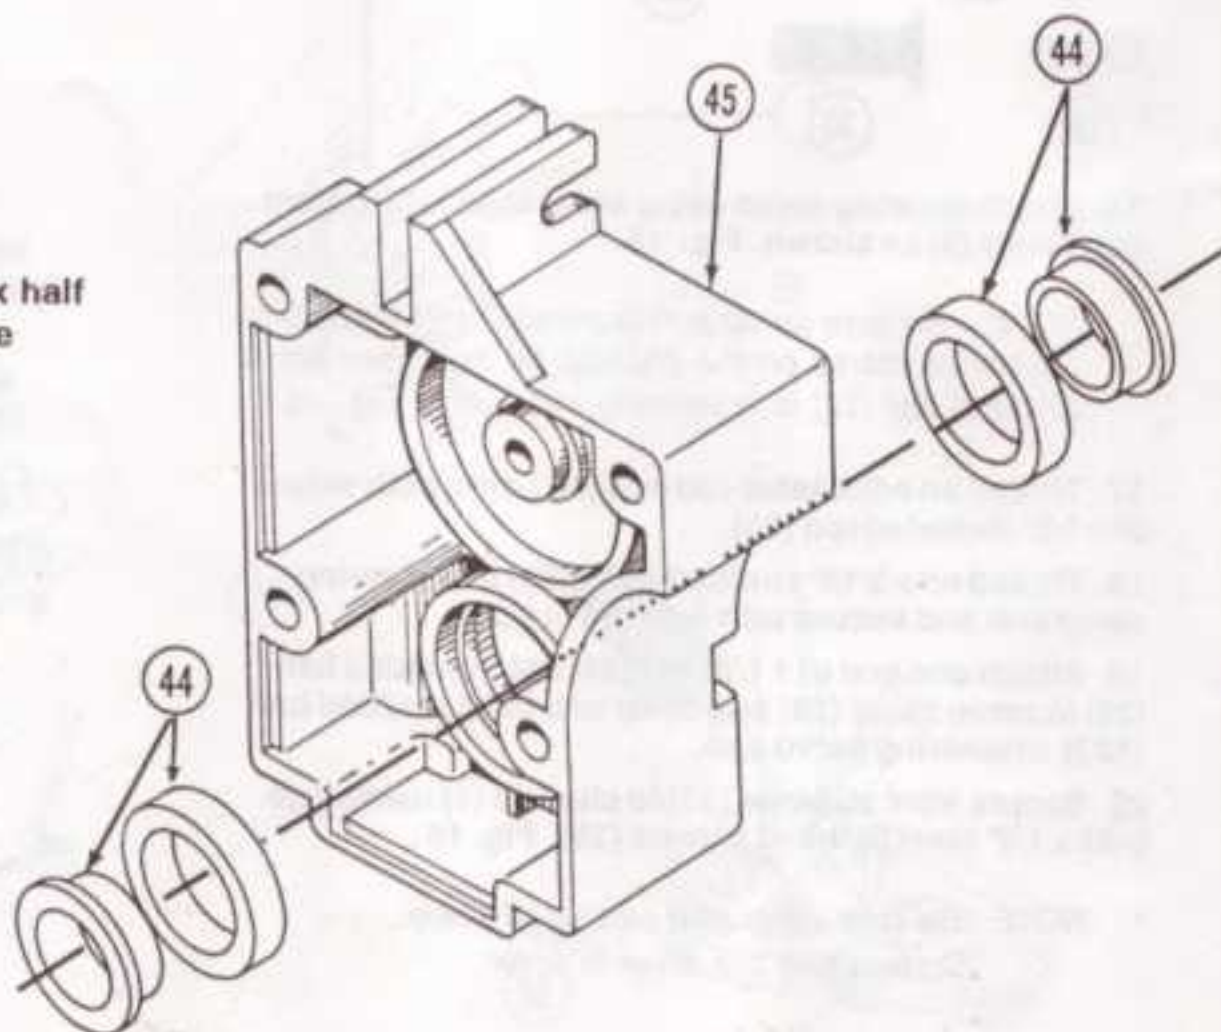

FIG. 18
4. Insert the two outside halves of the outdrive bushings (44) into each side of the right gearbox half (45). Now insert the inside halves of the outdrive bushings (44) into each of the outside bushing halves. Fig. 18.